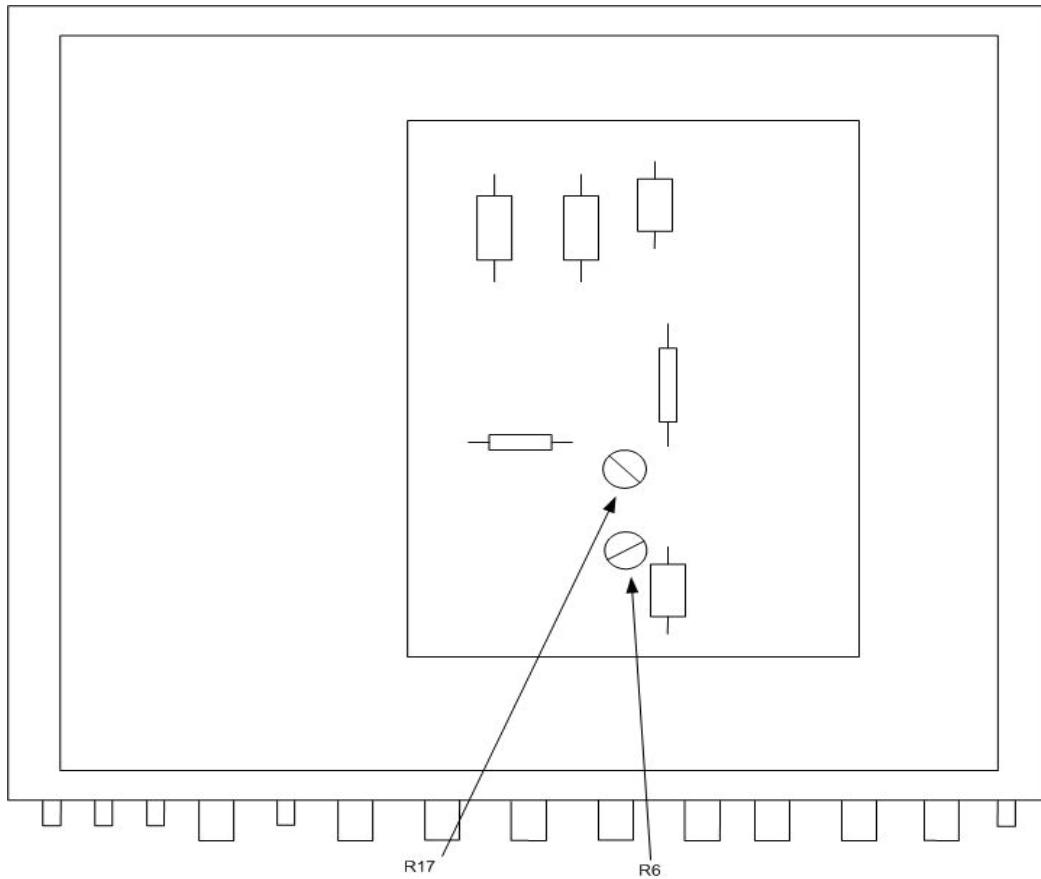

Figure 2. Model 1020A-Y - adjustment locations (top view).
- (1) Adjust R6 (fig. 2) until frequency counter indicates 10 kHz (R).
- (2) If required, readjust R6 for best in-tolerance condition while performing **a** (2) through (6) above.
- (1) Connect oscilloscope to TI Π \square OUT.
- (2) Set RATE control fully cw, and X1-X10-X100 switch to X100. Oscilloscope will indicate a square wave.
- (3) Set FUNCTION switch to INT Π and PULSE WIDTH control fully ccw and X1-X10-X200-X1000 switch to X1. Oscilloscope will indicate a pulse width (pip) less than 0.2 μ s.
- (4) Set PULSE WIDTH control fully cw. Oscilloscope will indicate a pulse width 2 μ s or more.
- (5) Set PULSE WIDTH X1-X10-X200-X1000 switch to X10. Oscilloscope will indicate a pulse width 20 μ s or more.
- (6) Set PULSE WIDTH X1-X10-X200-X1000 switch to X200 and RATE X1-X10-X100 switch to X1. Oscilloscope will indicate a pulse width 400 μ s or more.
- (7) Set PULSE WIDTH X1-X10-X200-X1000 switch to X1000. Oscilloscope will indicate a pulse width 2,000 μ s or more.
- (8) Disconnect cable from TI Π \square OUT and connect to FM OUT.
(9) Turn **FM DEV AMPLITUDE** control fully cw and **FUNCTION** switch to **FM**. If oscilloscope does not indicate a symmetrical saw tooth wave (no flat bottom), perform **b** below.
b. Adjustments. Adjust R17 (fig. 2) for a saw tooth wave with no flat bottom (R).